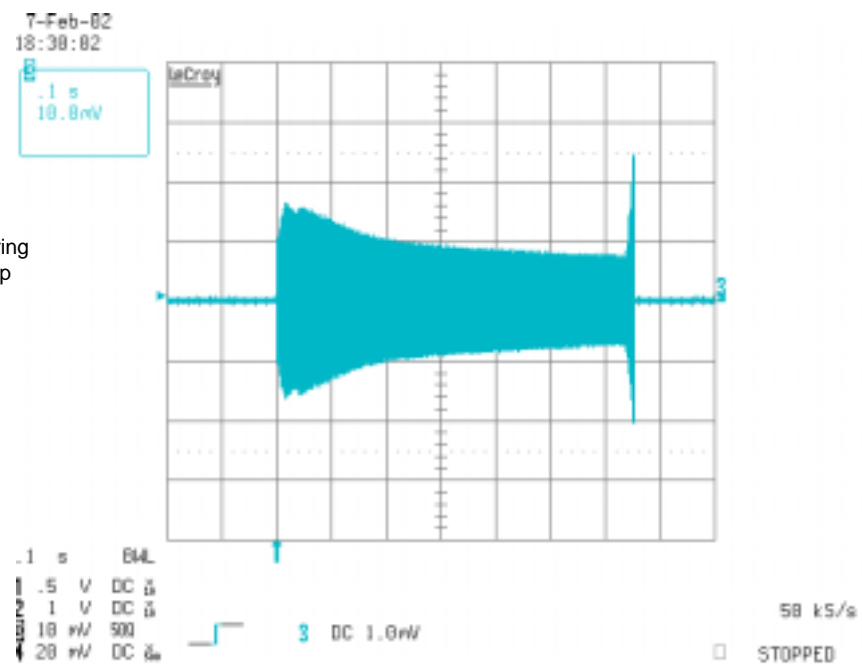

Figure 3:
When the ballast reaches the end of the UVLO mode, the Preheat mode is entered. At this point the ballast control oscillator of the IR2167 has begun to operate and the half-bridge output is driving the resonant load (lamp) circuit. The ballast control section oscillator of the IR2167 is similar to oscillators found in many popular PWM voltage regulator ICs and consists of a timing capacitor and resistor connected to ground. Resistors RT and RPH program a current which determines the ramp up time of capacitor CT and resistor RDT determines the ramp down time. The downward ramping time of CT is the dead time between the switching off of the LO (HO) and the switching on of the HO (LO) pins on the IR2167. The Preheat mode frequency of oscillation is selected such that the voltage appearing across the lamp is below the minimum lamp ignition voltage while supplying enough current to preheat the lamp filaments to the correct emission temperature within the Preheat mode period. The preheating of the lamp filaments is performed with a constant voltage during the Preheat mode. The waveform in Figure 2 shows the lamp filament current while Figure 3 shows lamp filament voltage during the normal Startup, Preheat and Ignition Ramp modes of the ballast.